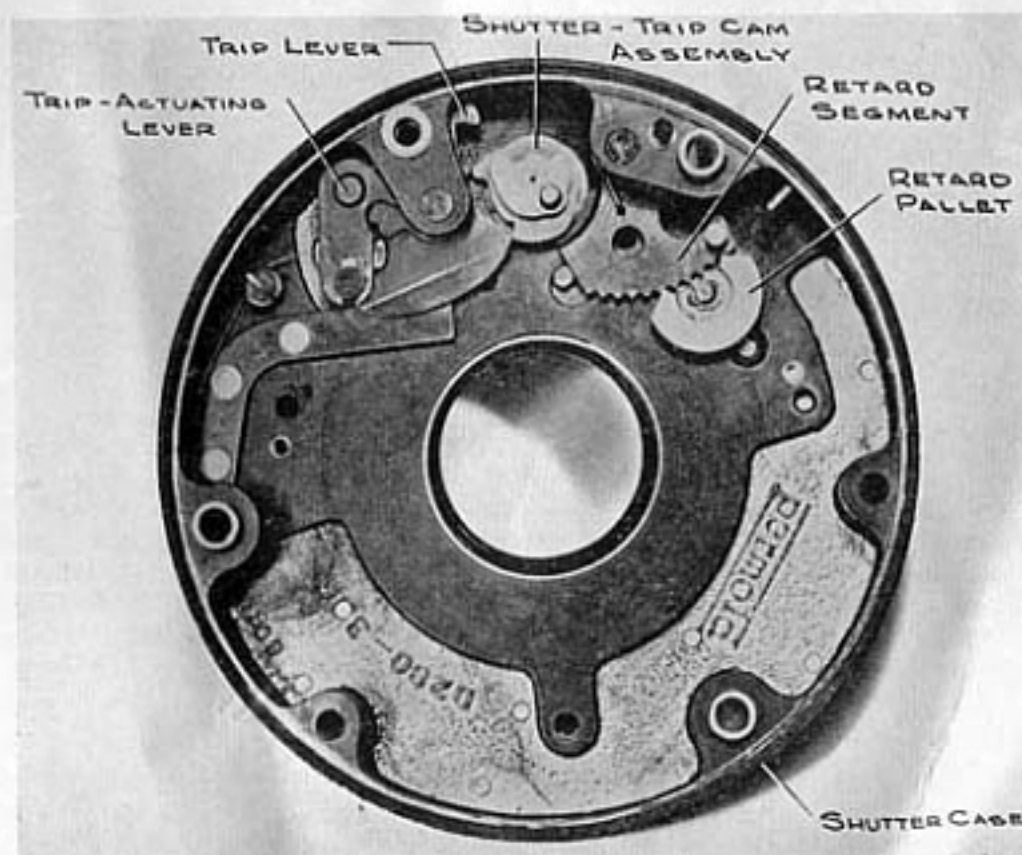

Figure 15—Shutter Case—Interior View
(1) The shutter should be lubricated every 6 months, or after approximately every 5000 operations.
(2) A thin film of grease, AAF Specification No. 3560, should be applied only at the points indicated, and a fraction of a drop of oil, U. S. Army Specification No. 2-27, should be carefully applied to the teeth of the retard segment. (See figure 15.)
(3) To lubricate the leaf center, remove the S-pin and the three leaf-center retaining screws. Lift out leaf center and put a fraction of a drop of oil, U. S. Army Specification 2-27, on each of the five shutter-leaf pivots, wiping off all superfluous oil immediately. The leaf center must not be disassembled.
(1) Remove the spring housing (K20B-376) from the shutter case-and-cover assembly (K20D-F2). Add the spacer (K20B-608) to the shutter-trip cam assembly (K20C-F39), and apply a thin film of grease, AAF Specification No. 3560, soft grade, to the shaft of the assembly. Insert the shaft of the shutter-trip cam assembly (K20C-F39) through the cam-shaft bushing (K20B-373) which has received a thin film of grease, AAF Specification No. 3560, soft grade. Coat the base of the lower spring cup (K20B-374) with a thin film of grease, AAF Specification No. 3560, soft grade, and secure to the cam-shaft (K20B-372) with taper pin (F76-60-5). Add the cam-shaft collar (K20B-475), shutter spring (K20B-530) and the upper spring cup (K20B-370). Apply a thin film of grease, AAF Specification No. 3560, soft grade, to the face of the upper spring cup (K20B-370). Place the spring housing (K20B-376) over the shutter-cam shaft assembly (K20B-317), and secure with four screws (F6-63RP) and four lock washers (AN935-6). Add the wind-coupling spacer (K20B-473) and the spring clip (F78-4). To the side of the spring housing (K20B-376) add the following: the wind-stop pin (K20B-375) which has received a thin film of grease, AAF Specification No. 3560, soft grade, wind-stop pin spring (K20B-471) and screw (F11-E82).
(2) In the shutter case (K20D-366) (*figure 15*), position the following in order: spacer (K20B-414), snubber assembly (K20B-F16), shim (K20B-415), shutter-cam stop pawl (K20C-416), two shims (K20B-415), trip lever (K20B-740) and the shims (K20B-415) (1, 2, or 3 as required). Then add the snubber-cam stop retard-segment shaft (K20B-410) to which a small drop of oil, U. S. Army Specification No. 2-27, has been added. Add a thin film of grease, AAF Specification No. 3560, soft grade, to the working surfaces of the trip lever (K20B-423), trip cam (K20B-419), and to the stopping surfaces of the shutter-cam (K20B-420).
(3) Position the following in the shutter case (K20D-366): retard-segment spacer (K20B-469), retard-segment assembly (K20B-F41), retard-segment spacer (K20B-628) and retard-segment spring (K20B-465). Then add the snubber-cam stop retard-segment shaft (K20B-410), which has received a small drop of oil, U. S. Army Specification No. 2-27. Position the retard pallet (K20B-470) on the retard-pallet stud (K20B-367) to which a small drop of oil, U. S. Army Specification No. 2-27, has been added; and secure with washer (K20B-534) and S-pin (K20B-629).
(4) Remove the trip coupling (K20B-409) from the trip shaft assembly (K20C-F14), and insert the trip shaft (K20B-408) of the remaining assembly into the bearing of the shutter case (K20D-366) which has received a film of grease, AAF Specification No. 3560, soft grade. Then secure the trip coupling (K20B-409) to the trip shaft (K20B-408) with taper pin (F76-60-7). Add the shutter-cam stop pin (K20B-424) to the trip-actuating lever (K20B-406).